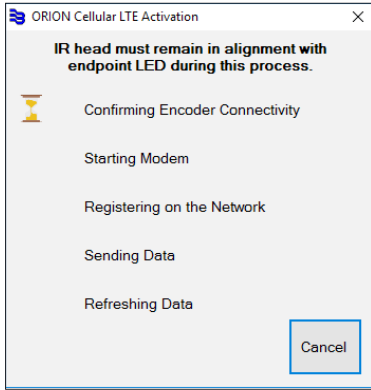

Figure 21: Activation in progress
2. Tap **Start**. A screen automatically displays as shown in *Figure 21*, indicating the endpoint activation process has started.